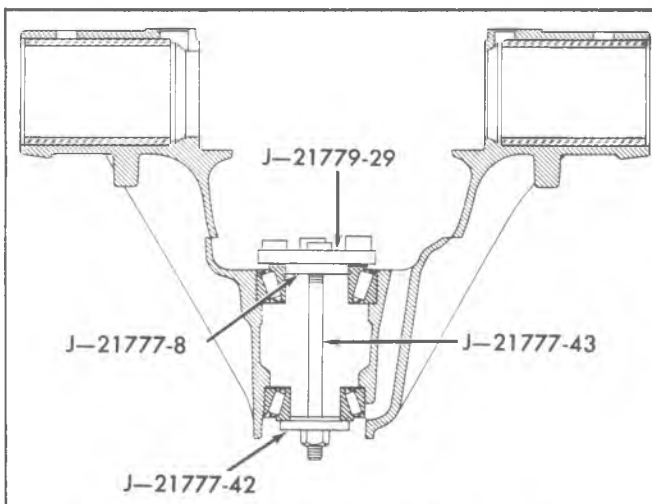

Fig. 18B—Gauge Plate Installed—Passenger Car
- c. For all models, insert stud through rear bearing and pilot J-21777-35, and through front bearing and pilot J-21777-42. Install the hex nut until snug and rotate the bearings to make sure they are properly seated. See figures 18B and 19B for illustration of proper positioning.